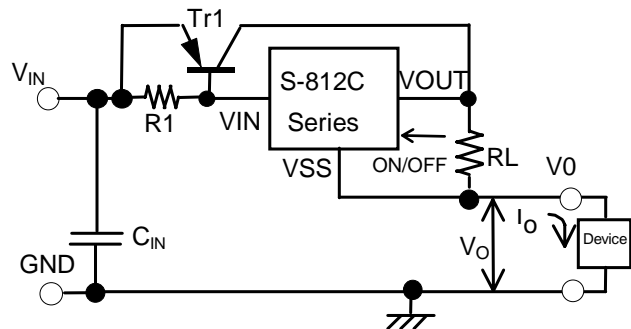

Figure 12 Constant Current Circuits
The S-812C series can be served in a constant current circuit as shown in the figure 12. Constant current  $I_O$  is calculated from the following equation:
Please note that in case of the circuit shown in the figure 12 (1) the magnitude of the constant current  $I_O$  is limited by the driving ability of the S-812C.
The circuit shown in the figure 12 (2) can, however, provide the current beyond the driving ability of the S-812C by combining a constant current circuit with a current boost circuit. The maximum input voltage for the constant current circuit is the sum of the voltage  $V_O$  of the device and 16 V. It is not recommended to attach a capacitor between the S-812C power source  $V_{IN}$  and  $V_{SS}$  pins or between output  $V_{OUT}$  and  $V_{SS}$  pins because rush current flows at power-on.